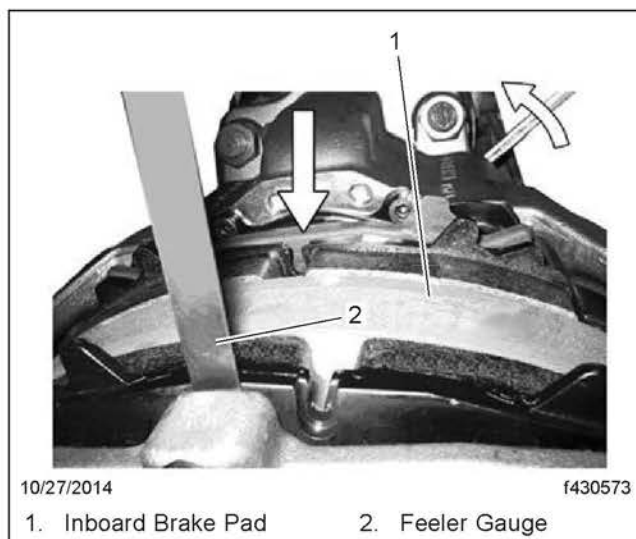

Fig. 6, Adjusting the Clearance
- 13.1 Using a 0.047 inch (1.2 mm) feeler gauge, adjust the clearance. See the arrow in Fig. 6. Insert the feeler gauge between the brake pad of the rim side and the brake caliper.
- 14.1 Using a 0.047 inch (1.2 mm) feeler gauge, adjust the clearance. See the arrow in Fig. 6 on page 11. Insert the feeler gauge between the brake pad of the rim side and the brake caliper.